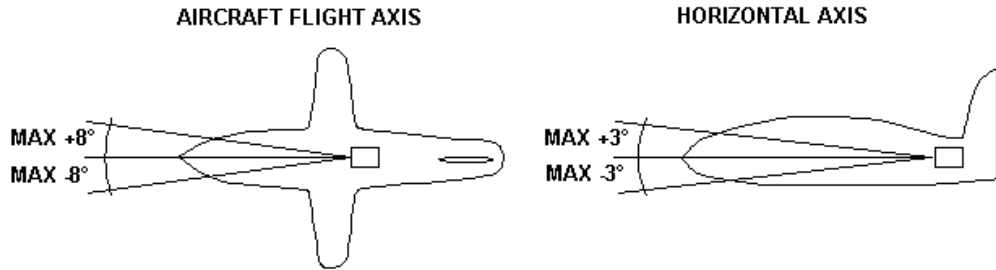

Figure 11
B. Installation of ELiTe (AF) on the aircraft (Ref. Figure 11)
The G-Switch module DIRECTION OF FLIGHT must be parallel with the aircraft flight axis as indicated by the G-Switch module's label. The G-Switch module direction and the A/C forward/aft directions must be respected to ensure correct acceleration sensor (G.switch) operation (See Figure 11).